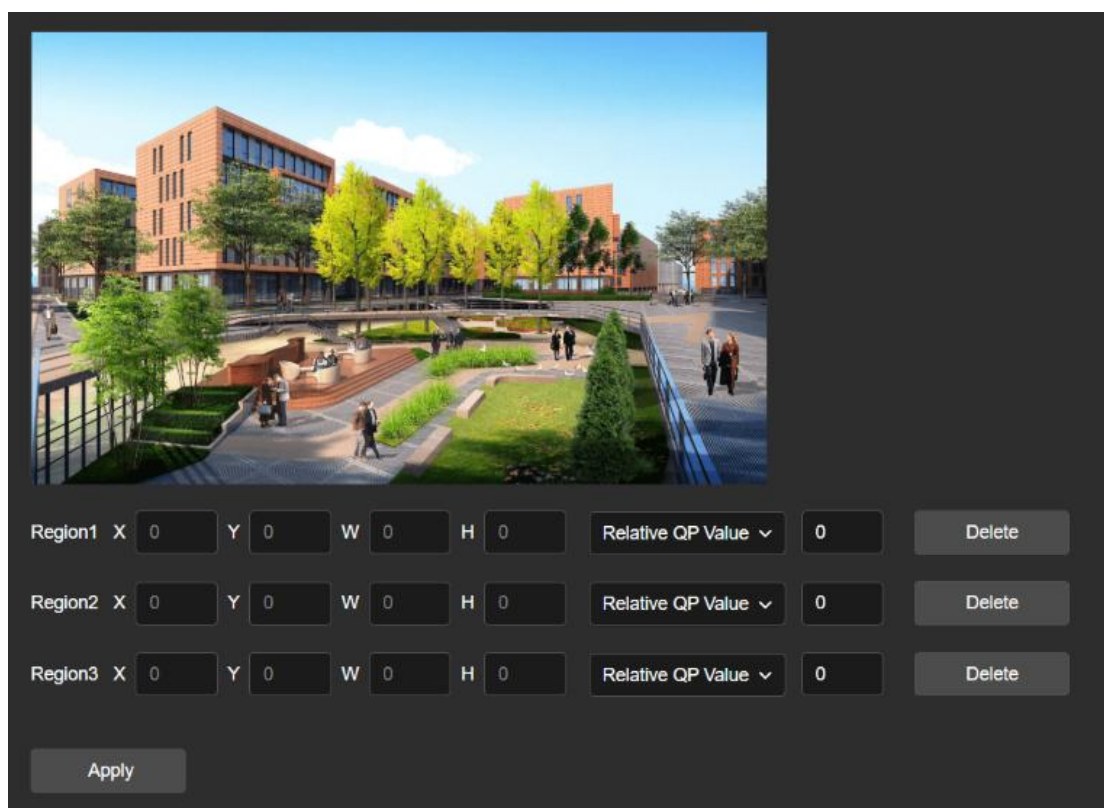

Figure 8-6-12
Step 1: In the main interface, click "Configuration → Event → Basic Event → ROI" to enter the ROI setting interface, as shown in Figure 8-6-12.